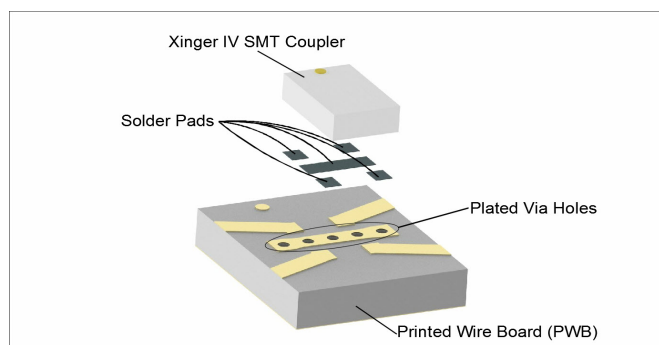

**Figure 3: Solder Paste Application**
**Solder Paste:** All conventional solder paste formulations will work well with Anaren's Xinger surface mount components. Solder paste can be applied with stencils or syringe dispensers. An example of a stenciled solder paste deposit is shown in Figure 3. As shown in the figure solder paste is applied to the four RF pads and the entire ground plane underneath the body of the part.